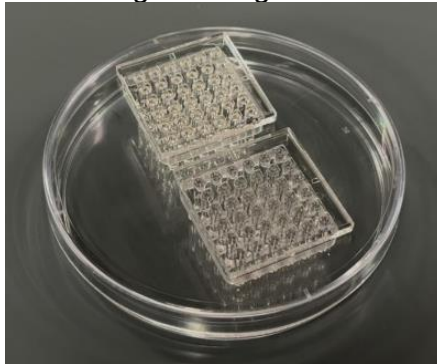

Figure 1. The 36PillarPlate with organoids inserted in the 36PetriLid on a 90 x 15 mm petri dish containing phosphate-buffered saline (PBS) for rinsing.
1. For rinsing, insert a 36PillarPlate with organoids in the 36PetriLid on a 90 x 15 mm petri dish containing 20 mL of 1x phosphate-buffered saline (PBS), and incubate for 10 minutes at room temperature (**Fig. 1**).